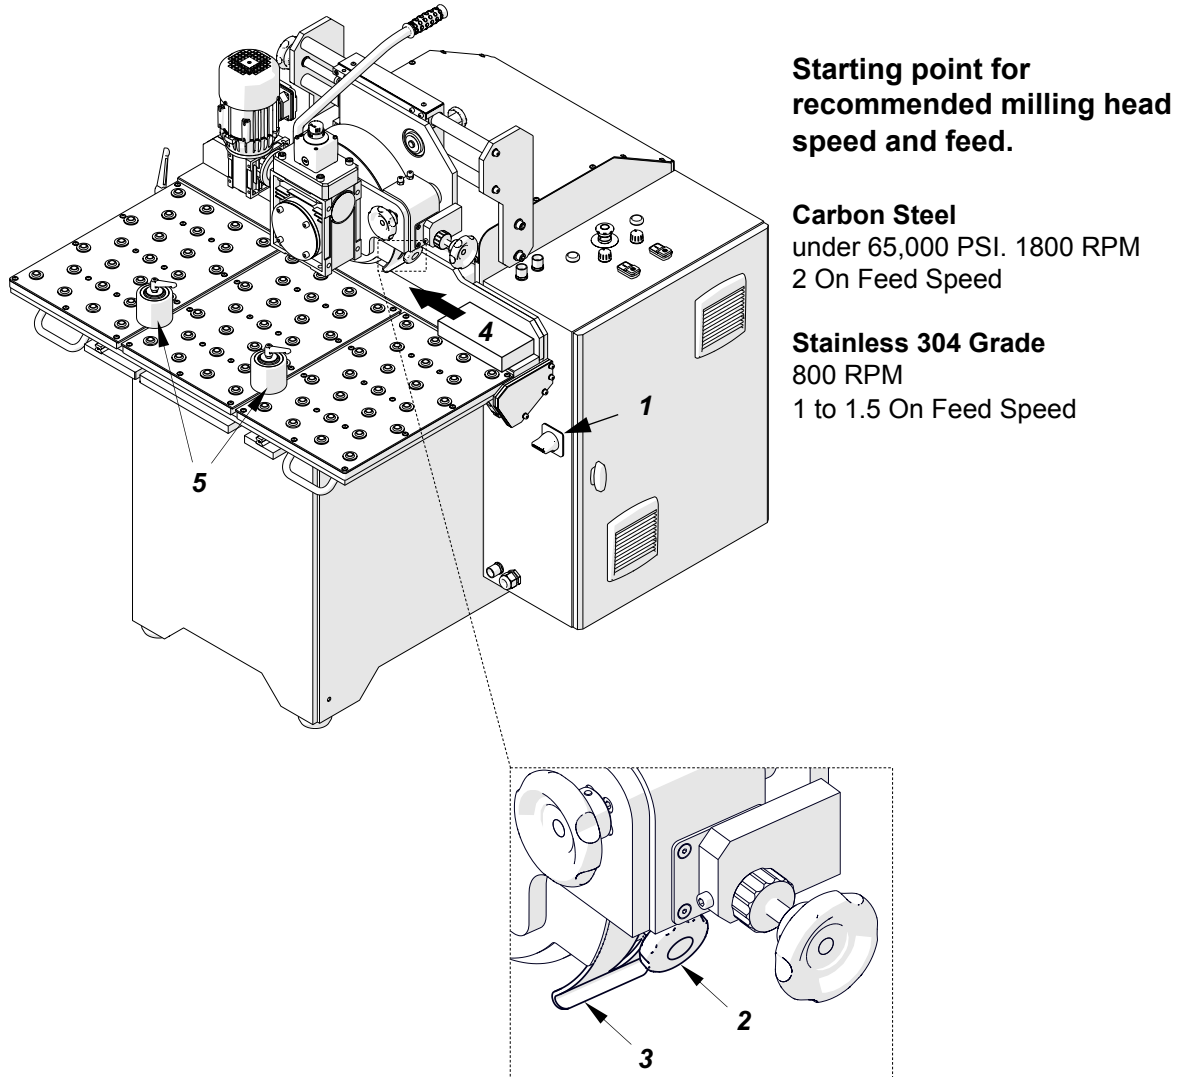

Fig. 12. Starting the work
Connect the machine to the power source and use the switch (1, Fig. 12) to turn on the power. On the control panel, press START, then start the SPINDLE and FEED. Use knobs to set the required spindle speed and feed speed. Next, loosen the knob (2, Fig. 12), lower the chip guard (3). Tighten the knob in this position.
Put the workpiece on the right side. Press the workpiece to the vertical and horizontal base and move it to the direction (4, Fig. 12) to put it under the feed wheel. After the first pass, move the vertical base away to get the correct gap for the next pass. Between the vertical base and the horizontal base, put the bevel height gauge related to the angle. On the gauge scale, read the bevel height related to the gap. Make sure that the vertical base is not in contact with the milling head.
To get better contact between the workpiece and the vertical base, use the rollers (5, Fig. 12) to press the workpiece.